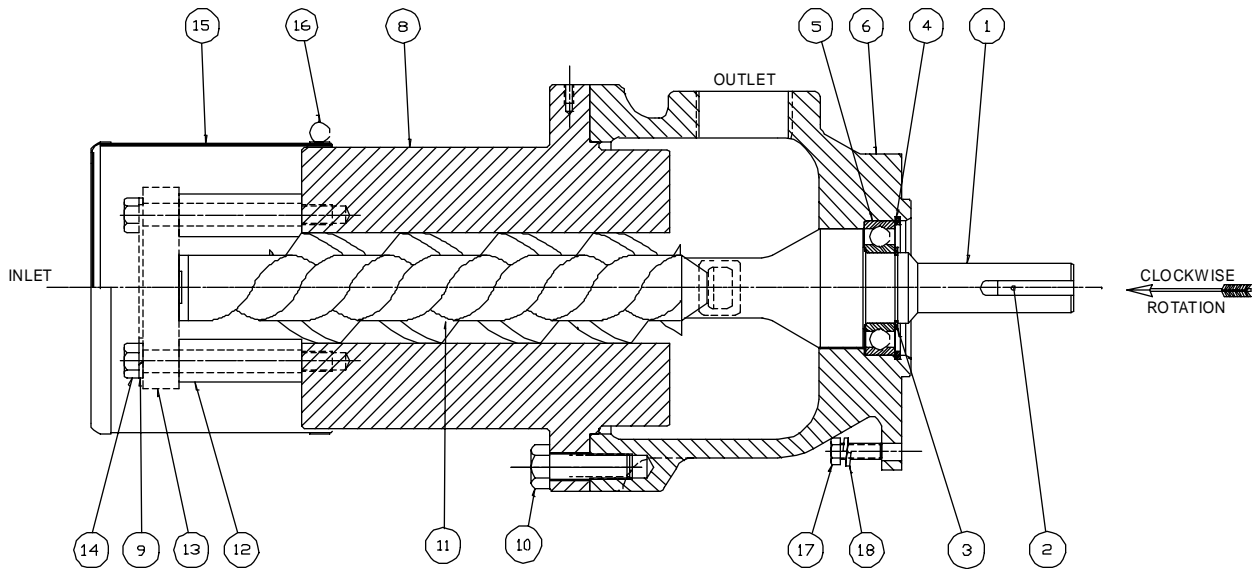

Figure 3. Assembly Drawing for 3SIC-218, -250 and 4SIC-218, -250, -275 Series Pumps
2. Using Figure 3, torque bolts (10) to  $50 \pm 2$  lb. ft.
3. For all SIC-275 series pumps, torque bolts (10) to  $75 \pm 5$  lb. ft.